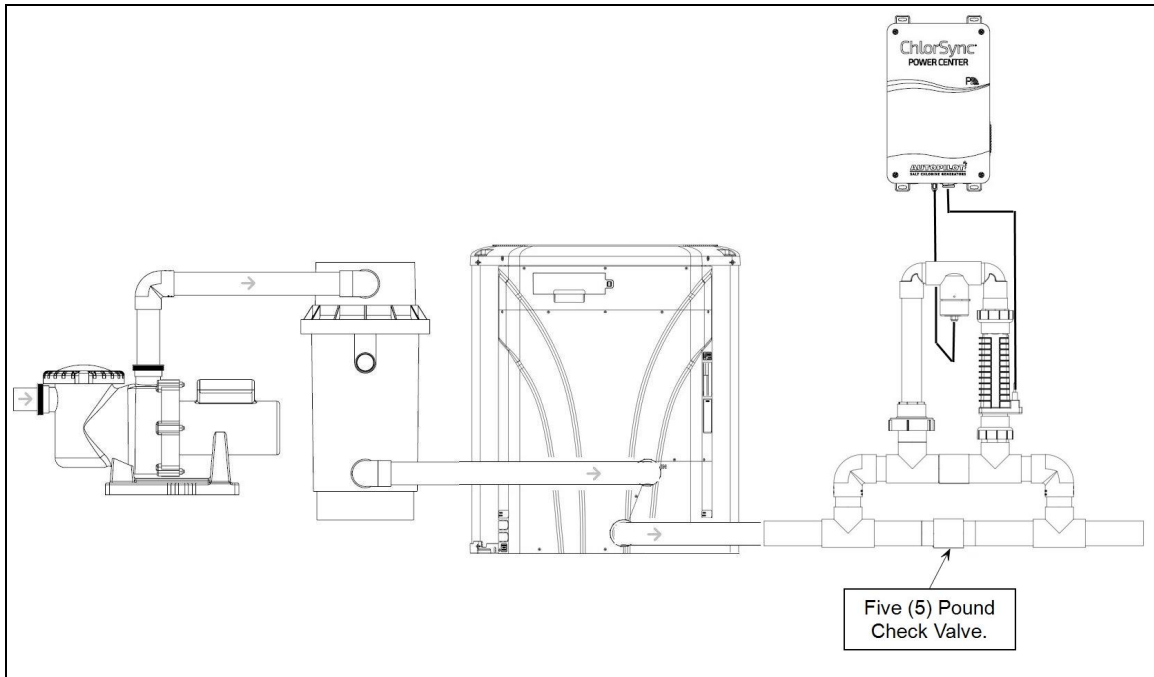

Figure 2
- A bypass manifold is used if water flow is greater than 100 GPM. See **Figure 2**.